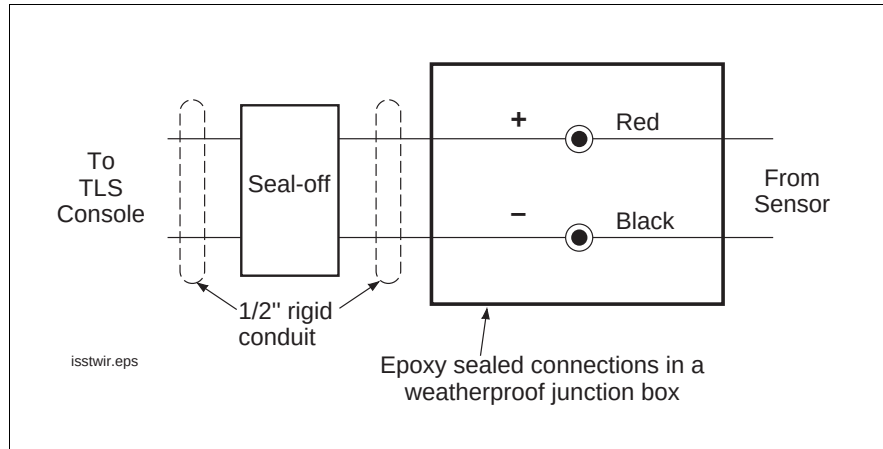

Figure 2. Sensor Field Wiring Diagram
7. Using wire nuts, connect the two-wire sensor cable to the field wires in the sensor junction box (Figure 2). Seal wire nuts with epoxy sealant following the instructions in Figure 3.